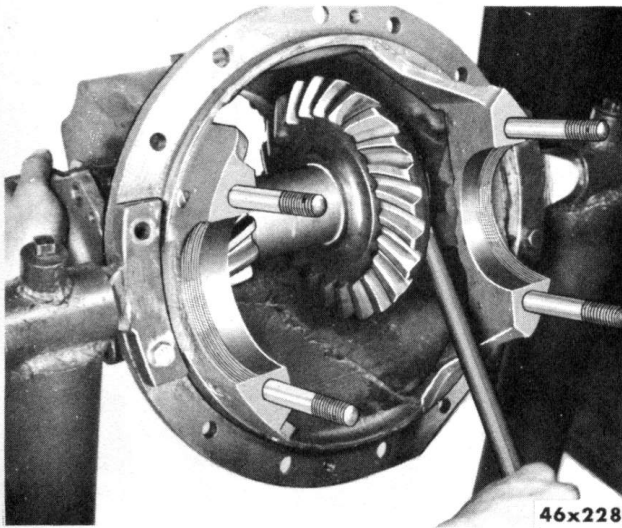

Fig. 118—Removing Cross Shaft Bearing Cage
- (1) Remove stud nuts and lock washers from cross shaft bearing cage (side opposite bevel gear).
- (2) Force off bearing cage with a small pinch bar between the back of the gear and the carrier housing (Fig. 118). Puller screw holes are also provided.
- (3) Wire shim pack together. The shim pack should remain intact to facilitate adjustment when reassembling.